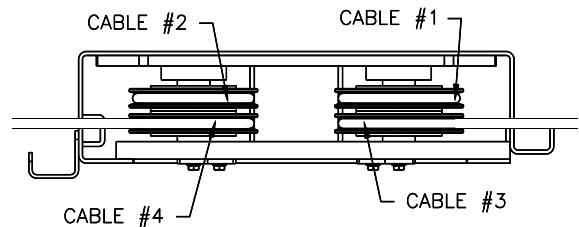

Fig 8 – Power Runway 4-Stack (rear view)
- 11) Position the front and rear cross beams, **Fig 8**.